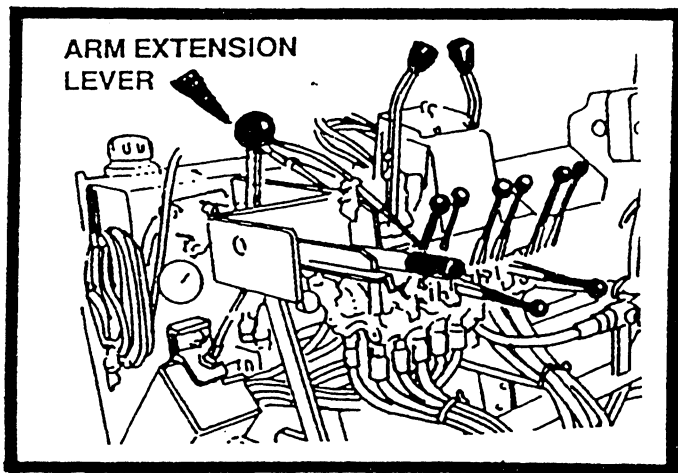

FIGURE 6
1. To connect truck hitch to rear of asphalt truck, extend the arm extensions of the truck hitch by pulling up on arm extension lever. See figure 6.